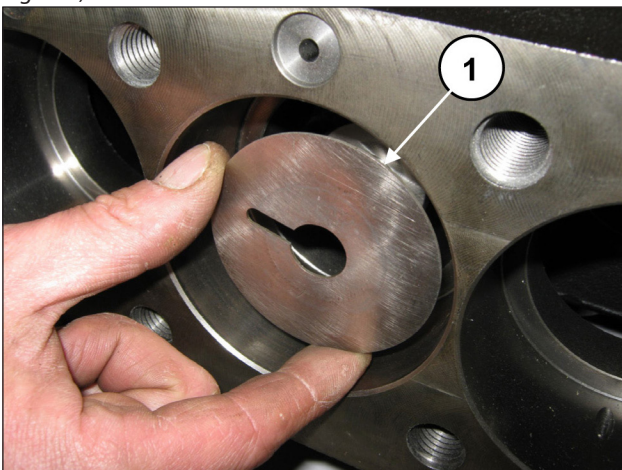

Fig. 173
Remove the spray-guard rings from the piston guides (pos. ①, Fig. 173).